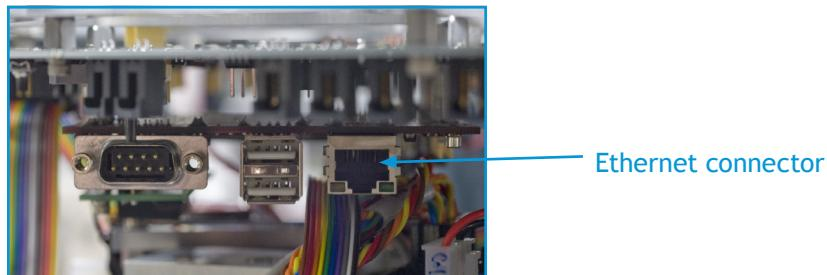

Figure 4-4: Ethernet connector
2. Plug the Cat 6 Ethernet cable from the network to the ESP. See Figure 4-4.